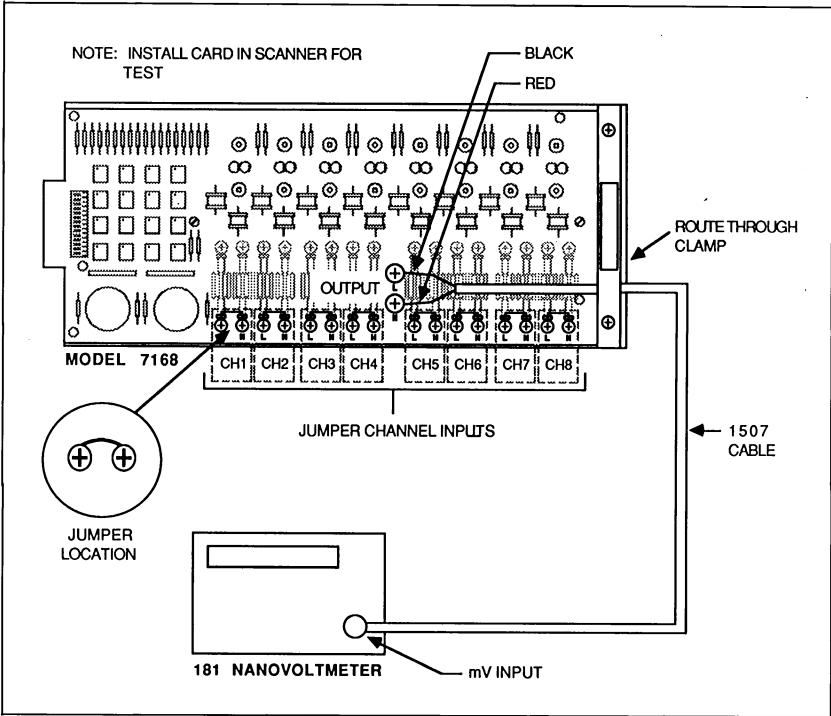

Figure 4-4. Connections for Differential Contact Potential Verification
10. Route the Model 1507 cable through the cable clamp on the Model 7168, as shown in Figure 4-4.
11. Connect the Model 1507 cable to the card output terminals (see Figure 4-4).